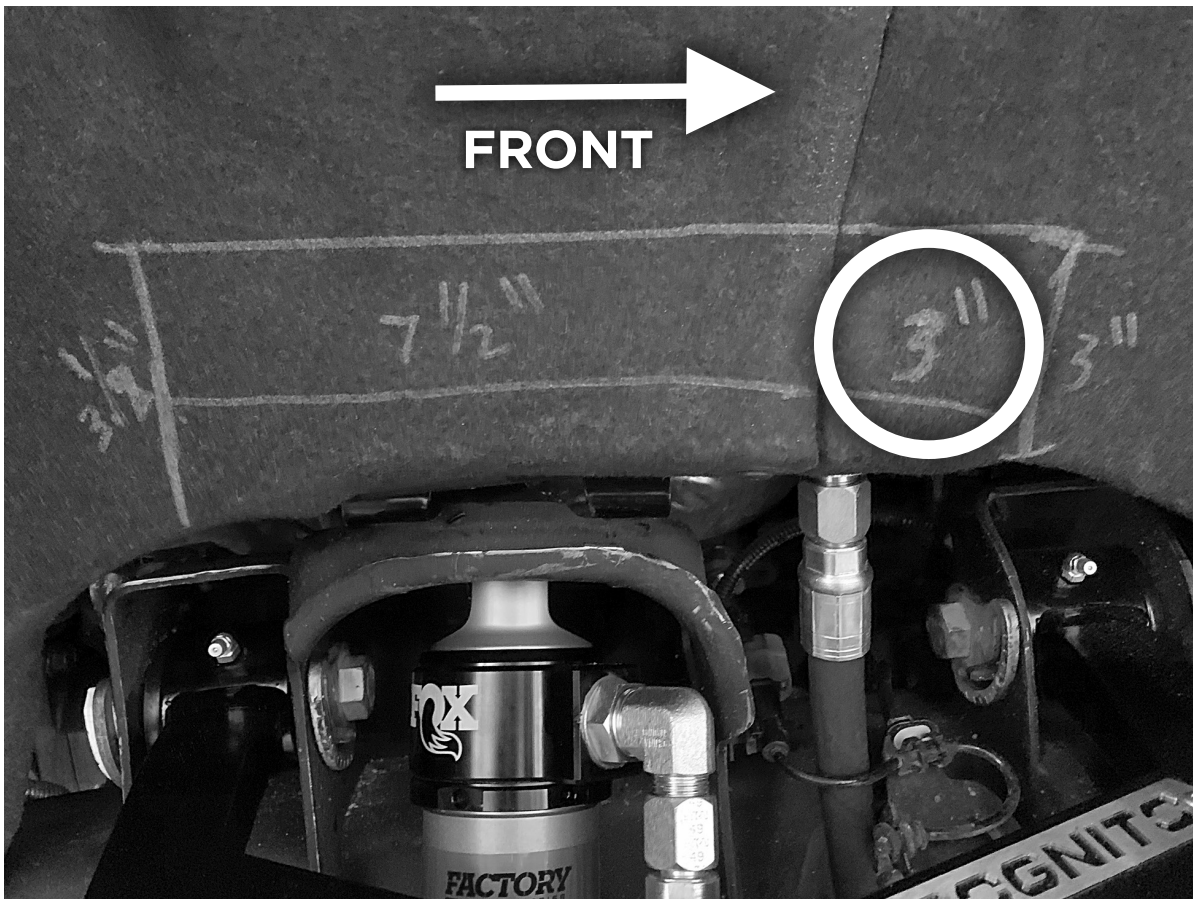

Figure 1: Passenger side shown
4. On the OEM fender liner there is a seam that you will use for reference. Draw a 3" line that starts from the seam and goes towards the front of the vehicle (Figure 1).